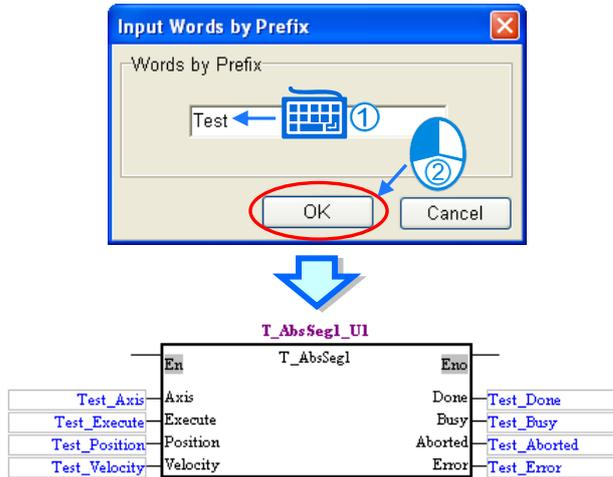

Figure 13-36 Typing a prefix
- (1) After **Input Words by Prefix** is clicked, the **Input Words by Prefix** window will appear. After the users type a prefix, and click **OK** in the **Input Words by Prefix** window, symbols will be assigned to the pins of the function block automatically, and they will be declared in the local symbol table in the POU, as shown in figure 13-36. The rule of generating a symbol is "Prefix_Pin name". For example, if the prefix typed in the **Input Words by Prefix** window is "Test", the symbol automatically assigned to the Axis pin of the function block definition T_AbsSeg1 will be "Test_Axis".